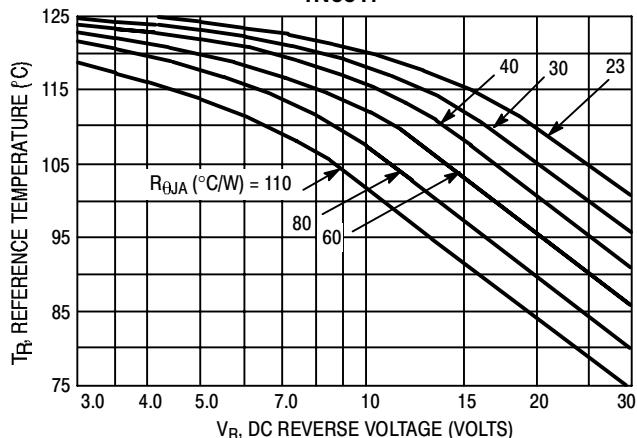

Figure 2. Maximum Reference Temperature
Reel Dimensions - Figure 2
Step 2. Find T_R from Figure 2. Read $T_R = 109^\circ\text{C}$